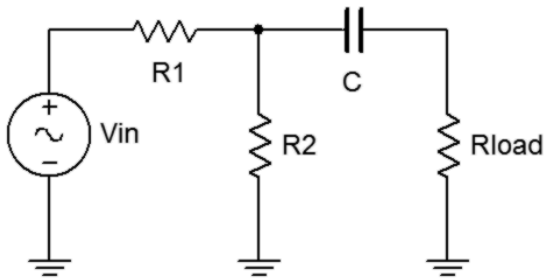

Figure 11.1
- For the circuit of figure 11.1, calculate the voltage across the 1 k Ω load using $R1=1.5$ k Ω , $R2=2.2$ k Ω , and $C=470$ nF, with a 2 V p-p 1 kHz source. Record this value in Table 11.1. Also calculate the expected Thevenin voltage and Thevenin impedance. Record these values in Table 11.2.
- Build the circuit of figure 11.1 using $R1=1.5$ k Ω , $R2=2.2$ k Ω , $Rload=1$ k Ω and $C=470$ nF. Set the generator to a 1 kHz sine wave at 2 V p-p. Make sure that the *Bandwidth Limit* of the oscilloscope is engaged. This will reduce the signal noise and make for more accurate readings. Measure the load voltage and record in Table 11.1 as V_{load} Original.